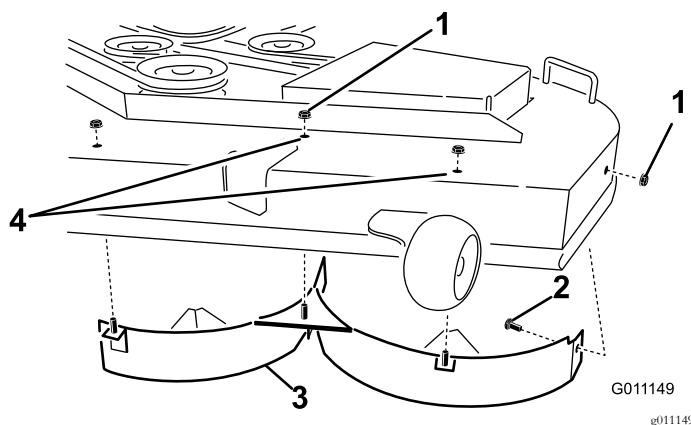

Figure 28
4. Remove the 2 locknuts (5/16 inch) secured to the welded posts of the left baffle on the top of the mower deck at the center and left of center positions (Figure 28).
6. Remove the left baffle from the mower deck as shown in Figure 28.